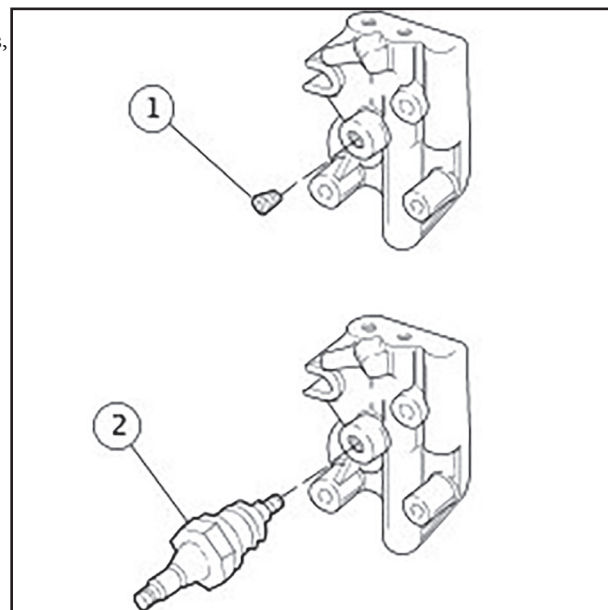

Figure 6. Pump Cover Oil Pressure Switch Mounting Hole
See Figure 6. For Evolution* engines, install the plug (1) as shown. On all other models, install the original oil pressure switch (2) instead. Remember to coat threads of plug or switch with Loctite Pipe Sealant with Teflon.